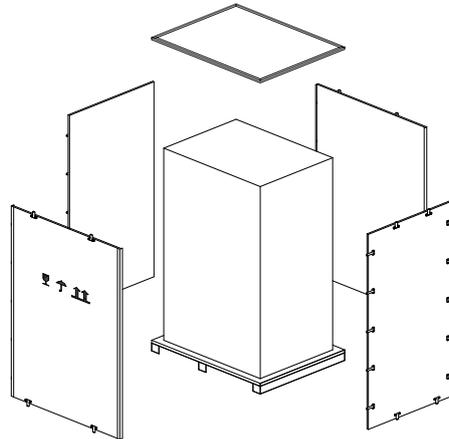

Fig.3-4 Disassemble the case
3. Open the top plate of the steel-edged wooden case with slotted awl and pier, followed by side boards (see Fig.3-4).